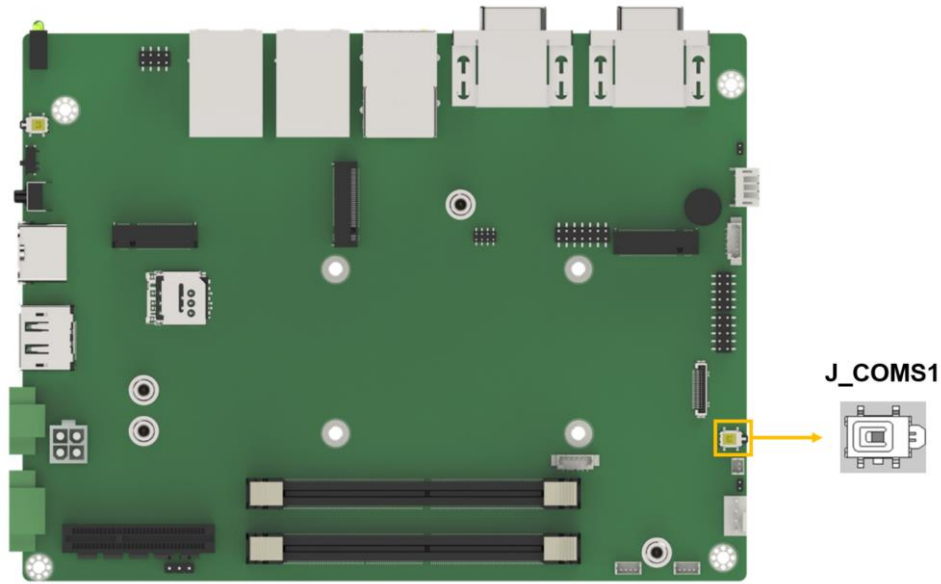

Figure 3-30: Clear CMOS Location
- CN Location:** See **Figure 3-30**